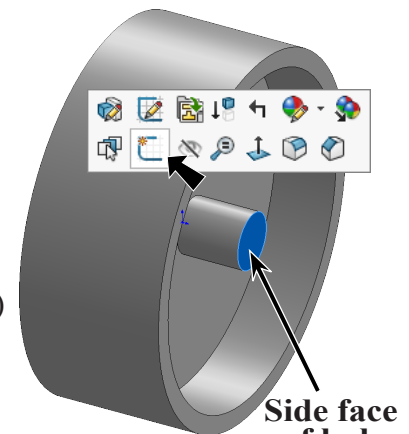
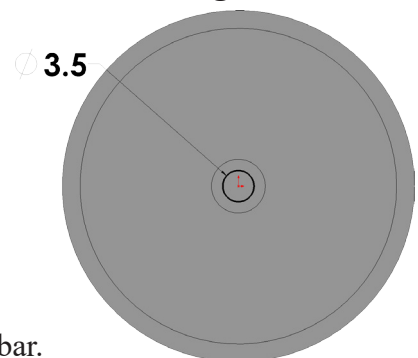

Fig. 9
Fig. 10
Step 1. Click the **side face of hub** and click **Sketch**  on the context toolbar, **Fig. 9**.
Step 3. Click **Circle**  (S) on the Sketch toolbar.
Step 4. Sketch a circle for the hole at Origin , **Fig. 10**.
Step 5. Click **Smart Dimension**  (S) on the Sketch toolbar.
Step 6. Dimension axle hole **diameter 3.5**, **Fig. 10**.